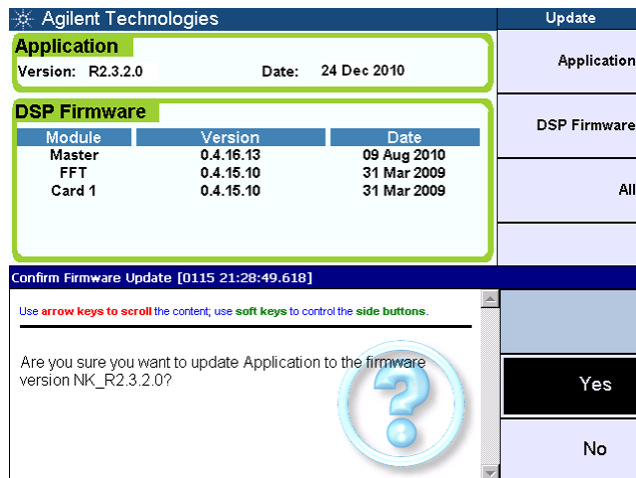

Figure 5-6 Pop up message to confirm application update
- 15 A message will pop up to confirm the application update as shown in Figure 5-6. Select **Yes** to continue.